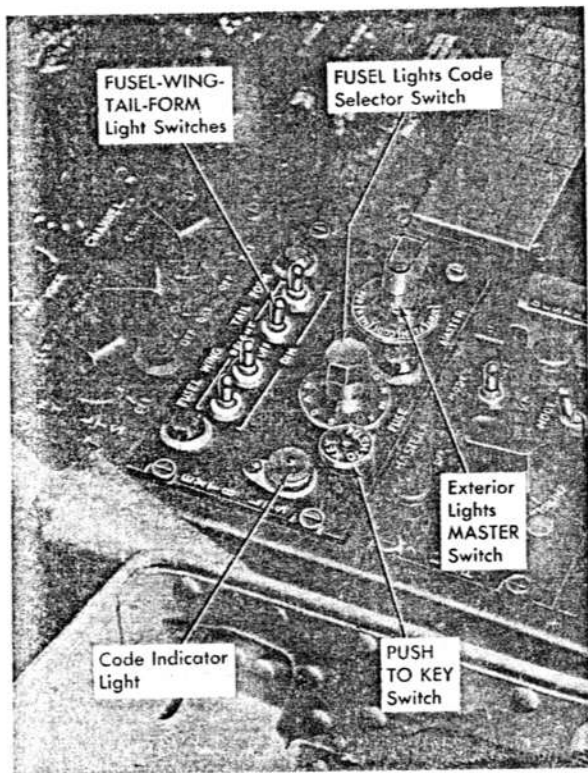

Figure 4-9. Exterior Light Controls
**EXTERIOR LIGHTS MASTER SWITCH.** The exterior lights MASTER switch (figure 4-9) is located on the right-hand console. It is a five-position rotary switch and controls the mode of operation of the lights as follows:
**FUSEL LIGHTS CODE SELECTOR SWITCH.** The FUSEL lights code selector switch (figure 4-9) is located on the right-hand console. It is used to select the letter to be blinked in Morse code by the upper and lower fuselage lights. There are 12 code letters that can be selected: "A," "D," "G," "I," "K," "M," "N," "O," "R," "S," "U," and "W."
**PUSH TO KEY SWITCH.** The PUSH TO KEY switch (figure 4-9) is used to operate manually the upper and lower fuselage lights in sending out coded signals.
**CODE INDICATOR LIGHT.** The red code indicator light (figure 4-9) blinks the code signals being transmitted to the fuselage lights by the PUSH TO KEY switch.